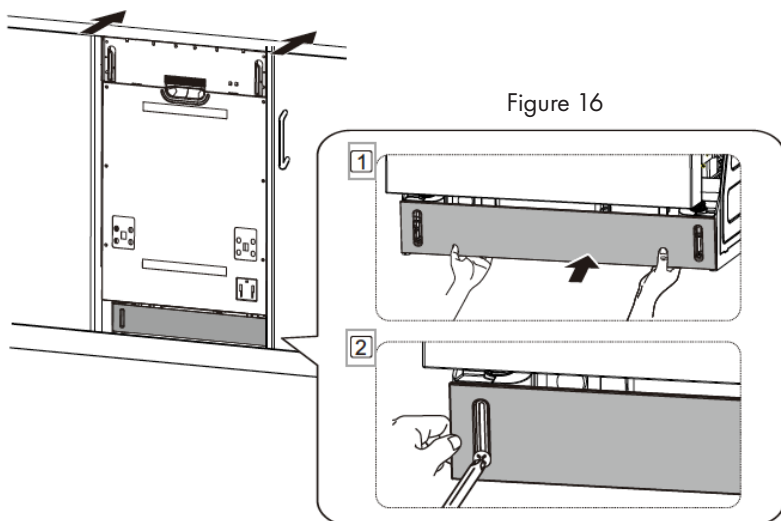

Figure 16
5. Confirm that the kick plate gasket is on the bottom of the kick plate. To install the kick plate with screw ST3.9\*13, refer to the figure 16.